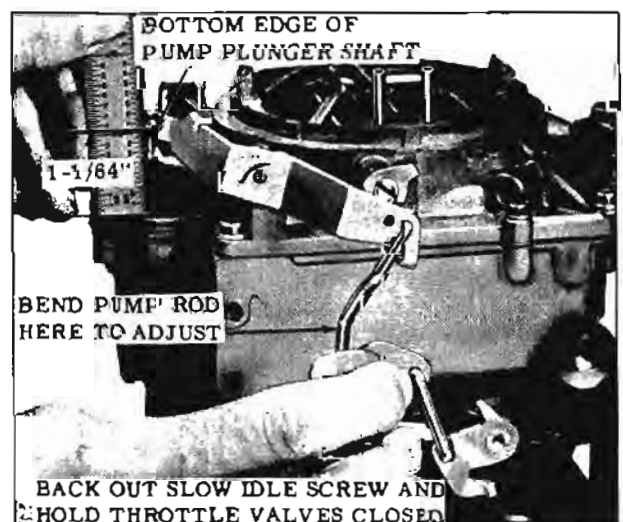

Fig. 9-191 Pump Rod Adjustment
1. While holding the throttle valves closed, idle speed screw backed out, measure the distance from the top of the air horn casting to the bottom edge of the pump plunger shaft. It should be  $1-1/64''$ . (Fig. 9-191)